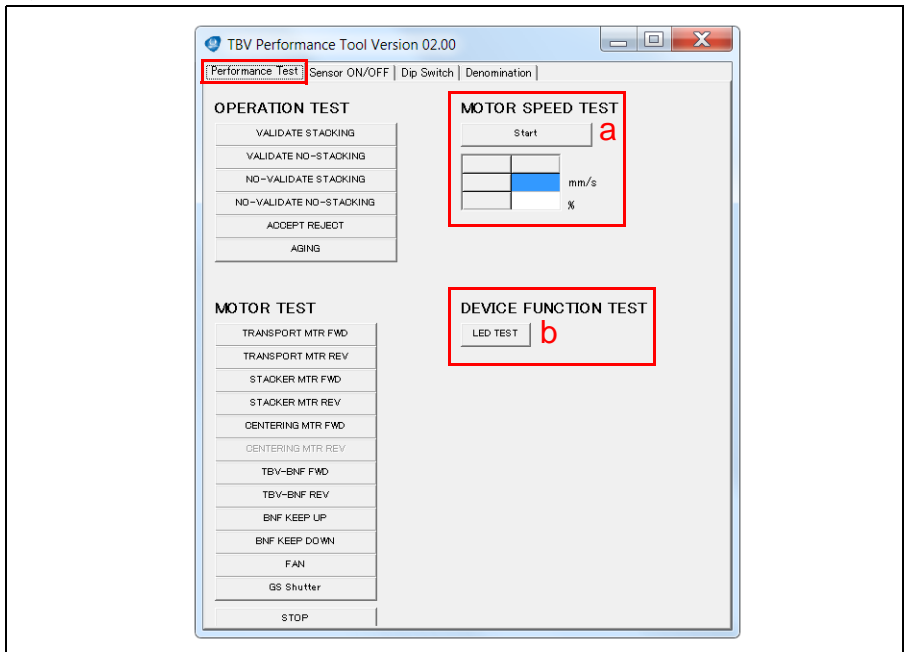

Figure 12 Motor Speed Test/Device Function Test Screen
1. In the MOTOR SPEED TEST Section, click the “Start”  Screen Button (Figure 12 a).
1. In the DEVICE FUNCTION TEST Section, click the “LED TEST”  Screen Button (Figure 12 b).